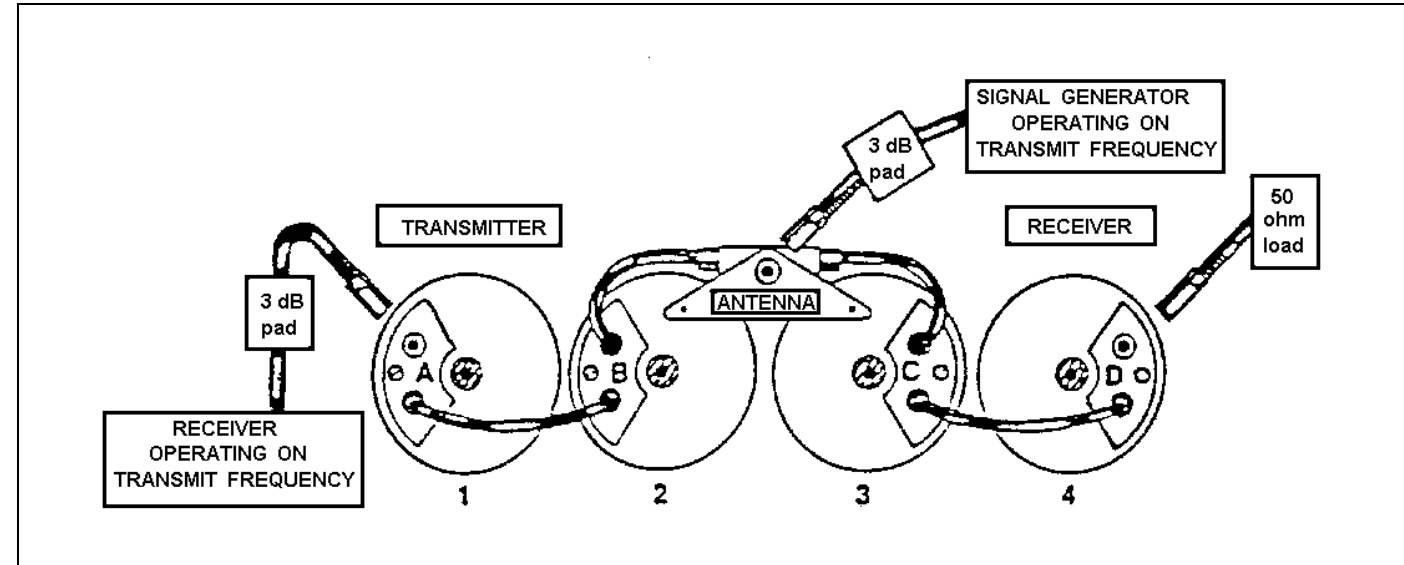

Figure 7
6. Connect the equipment to the duplexer as shown in Figure 7.